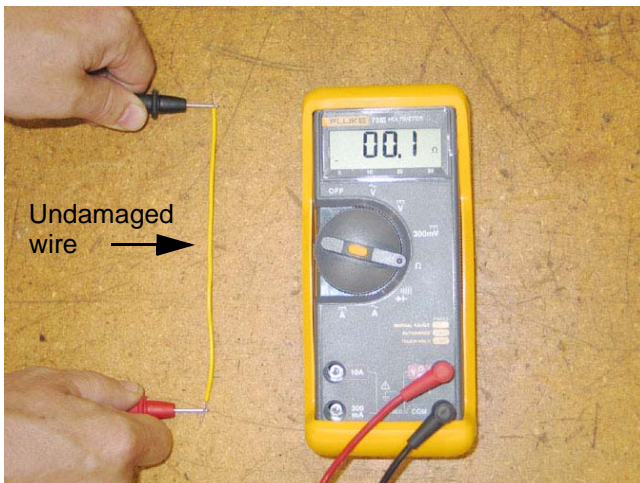

Figure 39.17
39.17. As a point of illustration, a short length of 12 or 14 gauge stranded wire can be stripped at the ends to facilitate an Ohm reading. See Figure 39.17.